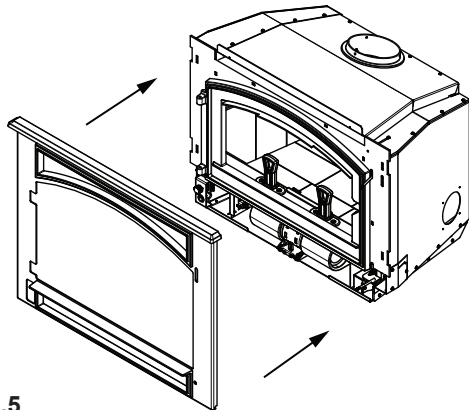

Figure 20.5
5. Reinstall face to front of appliance (Figure 20.5).